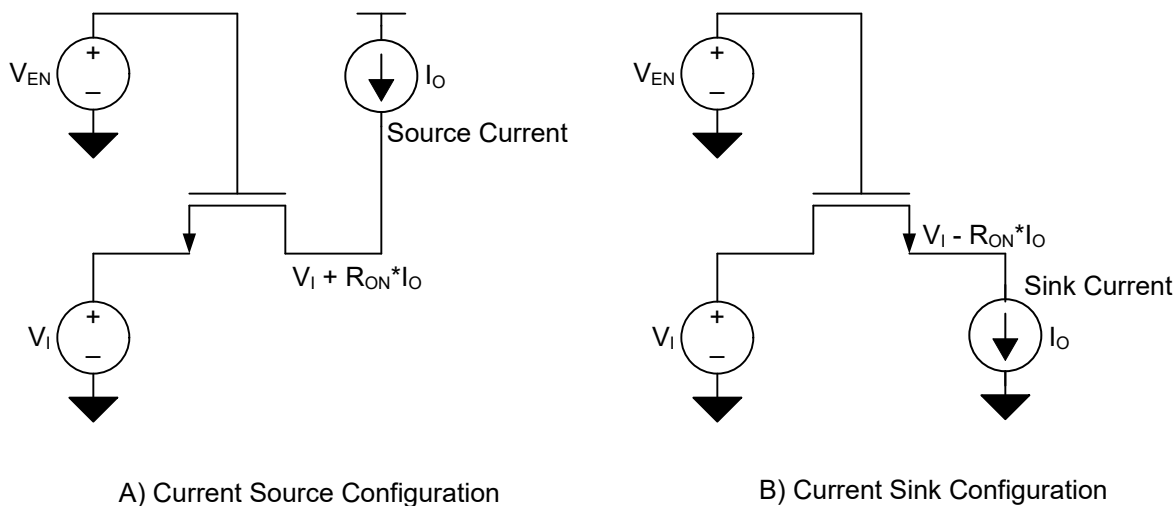

FIG 7-1. Current Source and Current Sink Configurations for Direct  $R_{ON}$  Measurements
(1) All typical values are at TA = 25°C.
(2) Measured by the voltage drop between the SCL1 and SCL2, or SDA1 and SDA2 terminals, at the indicated current through the switch. Minimum ON-state resistance is determined by the lowest voltage of the two terminals.
(3) Measured in current source configuration only. See Figure 7-1
(4) Measured in current sink configuration only. See Figure 7-1